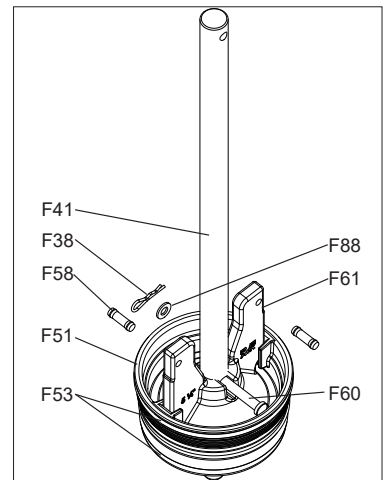

Fig. 7J
10. If any of the above parts are to be replaced, clamp the lower stem rod (F41) in a standard pipe vise (see fig. 7J). Remove the stop pins (F58) from the main valve (F61) and slide the valve seat ring (F51) off the ears of the main valve. To disconnect the main valve from the lower stem rod (F41) remove the spring pin (F38) and the main valve retaining pin washer (F88) from the main valve retaining pin (F60). Reverse the steps for reassembly. Lightly grease the main valve ears and main valve O-rings (F53), with a food grade grease that contains no acetate or silicone.